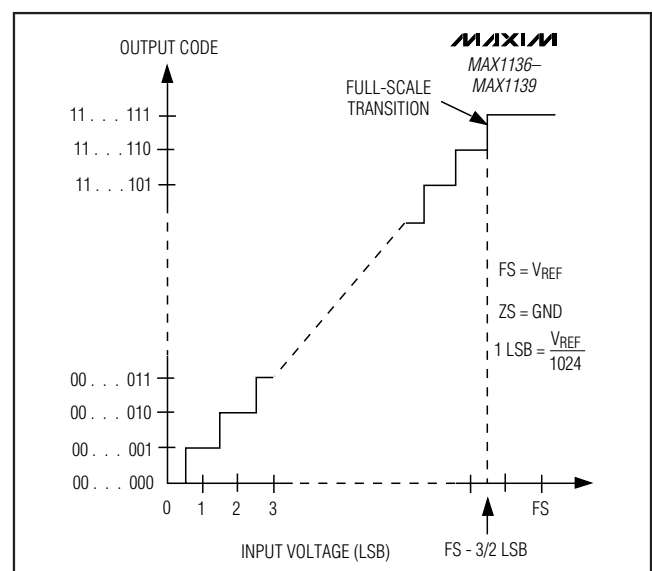

Figure 12. Unipolar Transfer Function
Output data coding for the MAX1136–MAX1139 is binary in unipolar mode and two's complement in bipolar mode with 1LSB = (V_{REF}/2N) where 'N' is the number of bits (10). Code transitions occur halfway between successive-integer LSB values. Figure 12 and Figure 13 show the input/output (I/O) transfer functions for unipolar and bipolar operations, respectively.